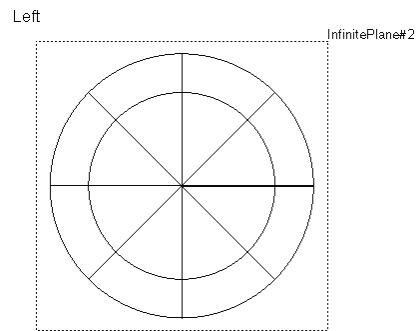

Figure 7-62 Plane after moving and scaling
8. Drag the scale handles (green and red colored) to scale the plane, as shown in Figure 7-62.